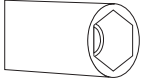

Figure 2
1. Please use driver with special head for removed and install nozzle as. (figure 2)